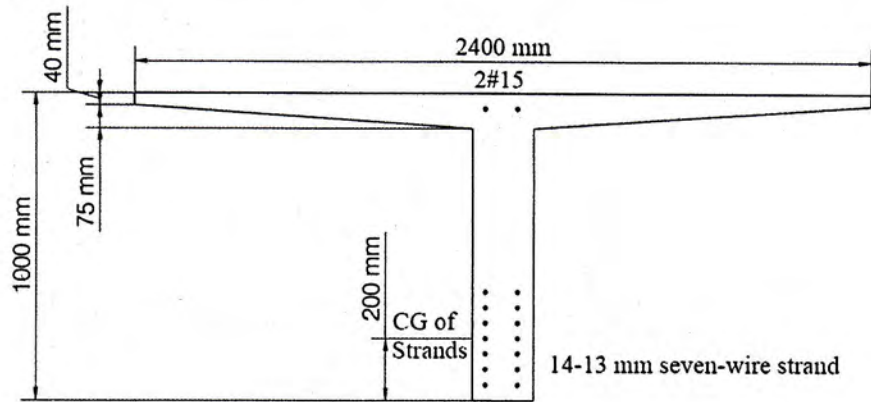

Fig. 1
- (b) The cross section of a precast pretensioned single-tee beam is shown in Fig. 1. The beam is simply supported and having a span of 25 m. The low-relaxation prestressing strands were tensioned to a stress of 1400 MPa in the pretensioning bed, prior to casting of the concrete. The strands have constant eccentricity along the span of the beam. Compute the camber at mid-span before the application of live load and long term deflection (final) under the effect of a concentrated live load of 60 kN at mid-span of the beam. Use the multipliers of PCI design handbook. 17